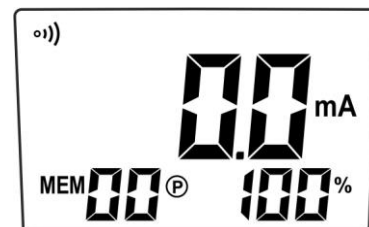

Fig. 20
2. The instrument displays the message “OL Ω” as it automatically sets for resistance measurement. Shortly press the multifunction key **▲A** to enter current measuring mode. The screen in Fig. 20 is displayed.